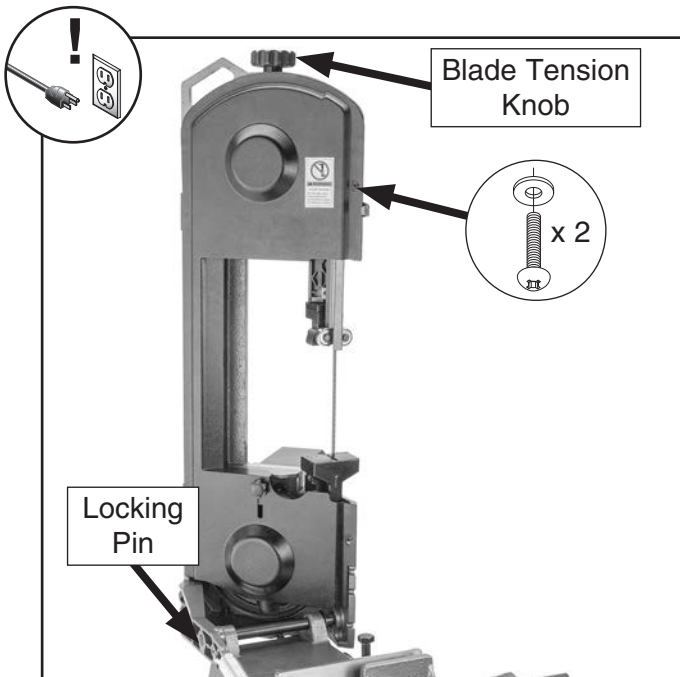

Figure 45. Headstock fully raised and locked in position.
2. Raise headstock fully and use head-locking pin to keep headstock upright (see **Figure 45**).
4. Remove (2) Phillips head screws and flat washers shown in **Figure 45**.